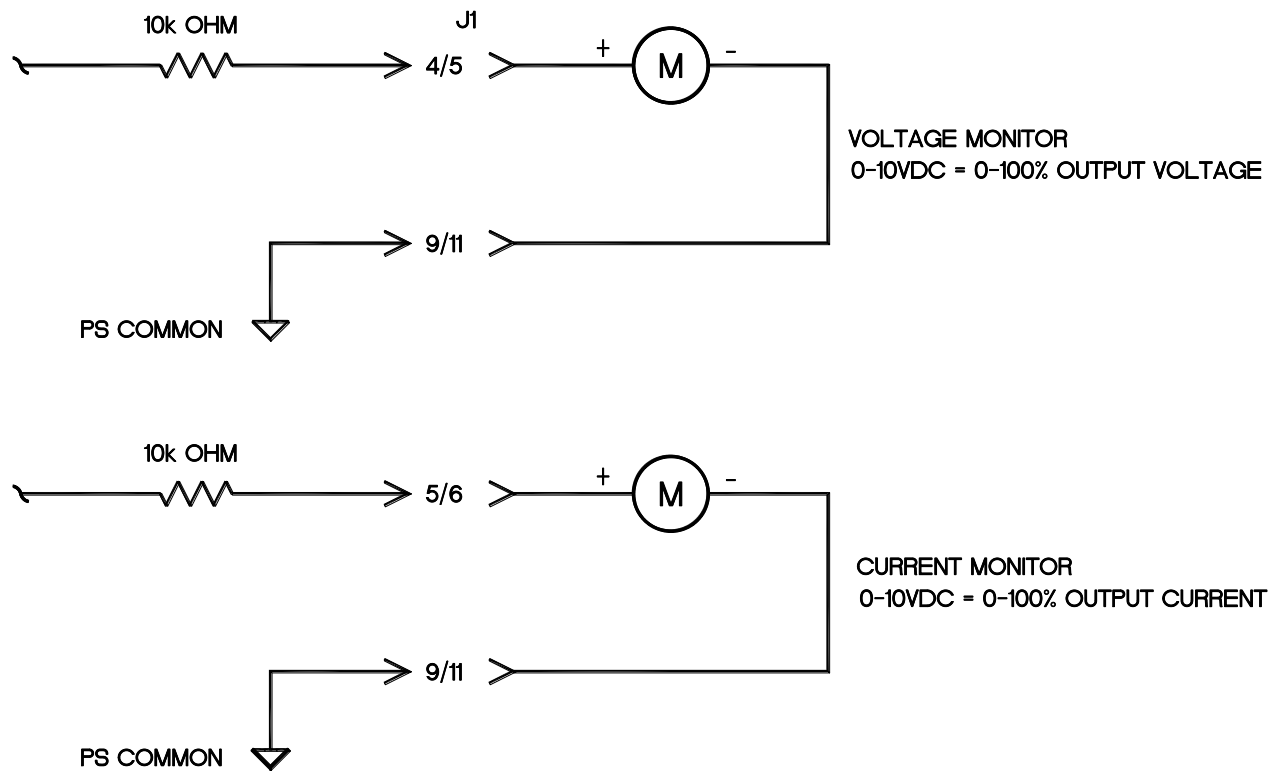

Figure 3.4 CZE Remote Monitoring
Remote Monitoring: Test points are made available for monitoring the voltage and current output. The test points are always positive regardless of the output polarity, where zero (0) to 10 (10) volts equals 0-100% of the output. See Figure 3.4 for test point wiring.